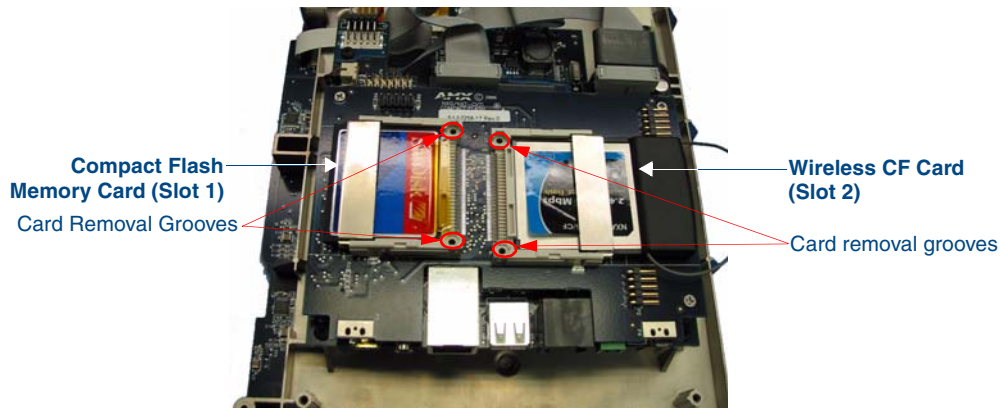

FIG. 14 Location and orientation of the card slots
1. Discharge any static electricity from your body by touching a grounded metal object and then locate the existing 128 MB Compact Flash card on the main board (FIG. 14).